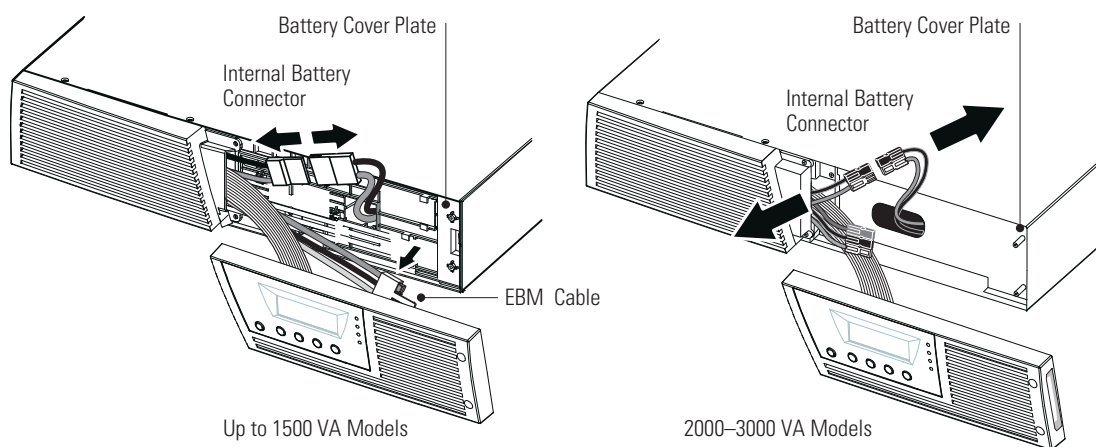
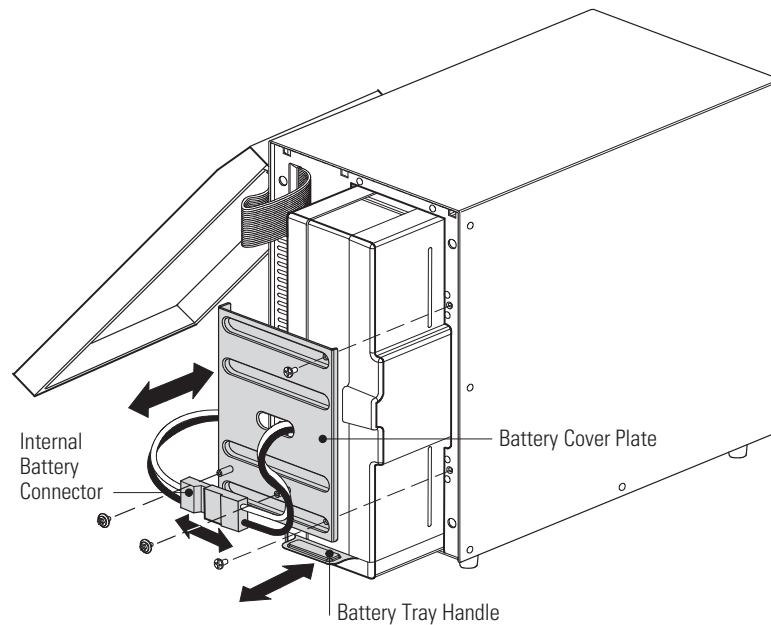

Figure 24. Disconnecting the UPS Internal Batteries (Shown without EBMs)
Figure 26. Replacing the UPS Internal Batteries
If the UPS requires any type of transportation, verify that the UPS is unplugged and turned off and then disconnect the UPS internal battery connector (see Figure 24 on page 46 for rackmount models or Figure 26 on page 48 for tower models).
2. Disconnect the internal battery connector (see Figure 24).
3. **Up to 1500 VA models only.** If the EBM cable is not connected to an EBM, unclip the EBM cable and move it to the left out of the way (see Figure 24).
4. Grasp an edge of the battery cover plate and pull it forward gently. Remove and retain the battery cover plate. See Figure 24 for the location of the battery cover plate.
9. **Up to 1500 VA models only.** If the EBM cable is not connected to an EBM, clip the EBM cable back into its holder on the battery cover plate. See Figure 24.
2. Remove and retain the two screws holding the internal battery connector. Disconnect the internal battery connector. See Figure 26.